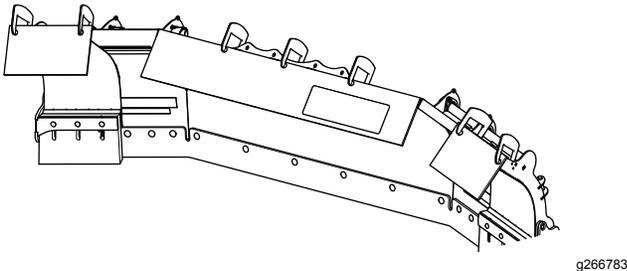

**Figure 10**
1. Cut the belting as shown in Figure 10.